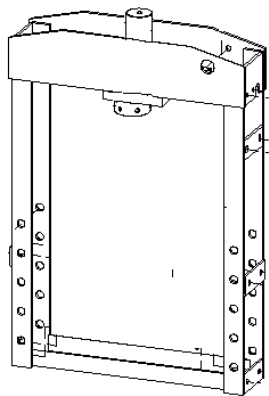
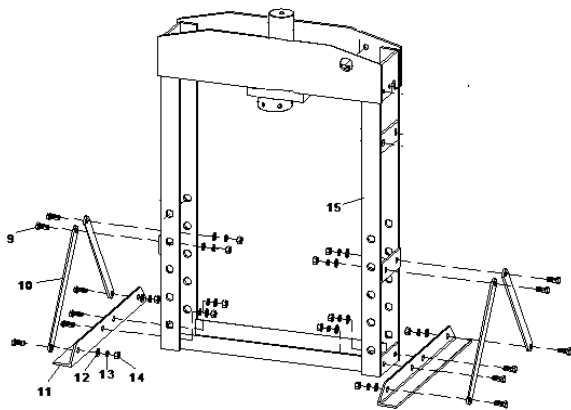
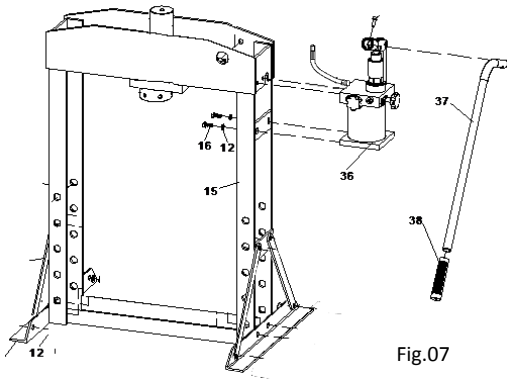

Fig.03
Fig.04
Fig.07
- Attach the base section and support to left and right connecting plate. (Fig. 04)
- Insert the complete handle into the opening of the lever support, Fig. 03. Assemble pump to the frame. Fig. 07 (CP80015), Fig. 09 (CP80020), Fig. 11 (CP80030 & CP80050).
• Connect the hose and the spring to the lifting device. The white hose is connected under the black hose. (Fig. 04) During moving the machine, make sure to use the proper lifting equipment and follow the instructions as shows (Fig. 03).